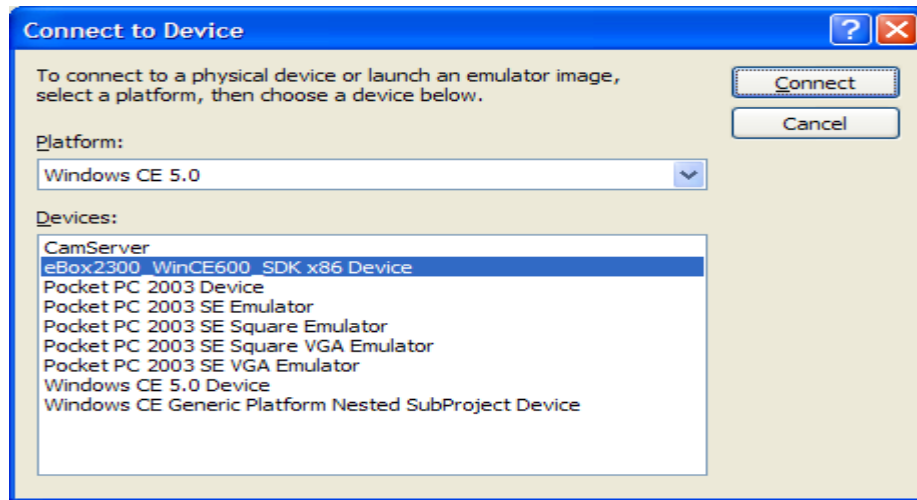

Figure 66. VS 2005 Connect Device Window
9. Select Your eBox SDK name from the list of available devices, and click on the Connect button as shown in figure 66.